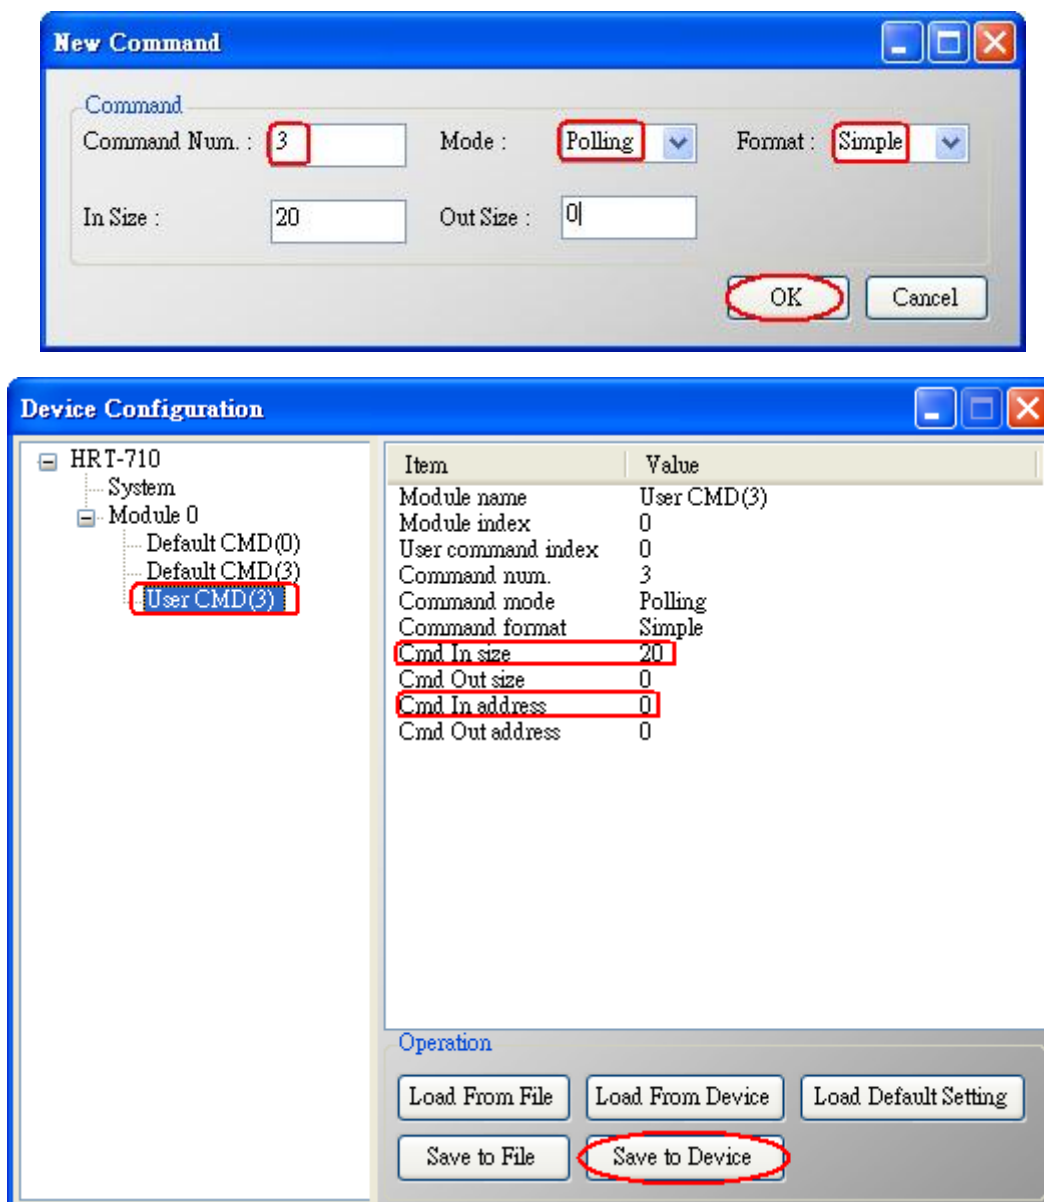

Figure 3-14 Add "User CMD(3)" to HRT-710
[1] Add “User CMD(3)” with “Simple” format and then click “Save to Device” to save the new HART device setting to HRT-710 like Figure 3-14. The mapped Modbus start address and length of User CMD(3) data can be found in “Cmd In address” and “Cmd In size” field. In the example, they are 0 and 20.